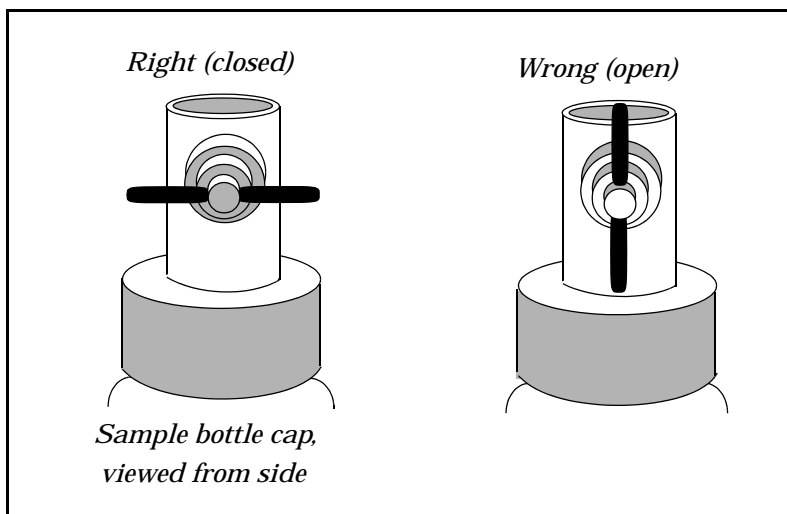

Figure 1-2 Proper Valve Orientation
1. Put a new bottle rack in the unit. Make sure the handles on the bottles are all closed (turned sideways 90° to the bottles). See Figure 1-2. Improperly oriented handles will jam the unit.
The metal plate holding the bottles inside the bottle rack keeps the bottles in place during shipment and use. It prolongs the melting time of the ice. The knurled knob with the threaded shaft attaches the bottle rack to the controller. Never operate the sampler without the stainless steel cover in place and the knob securely tightened. Before installing the bottle rack, look at the tops of the bottles. Make sure all the valve handles on the bottles are turned so they are perpendicular to the standing bottles, or facing 3 and 9 o'clock. (See Figure 1-2.)